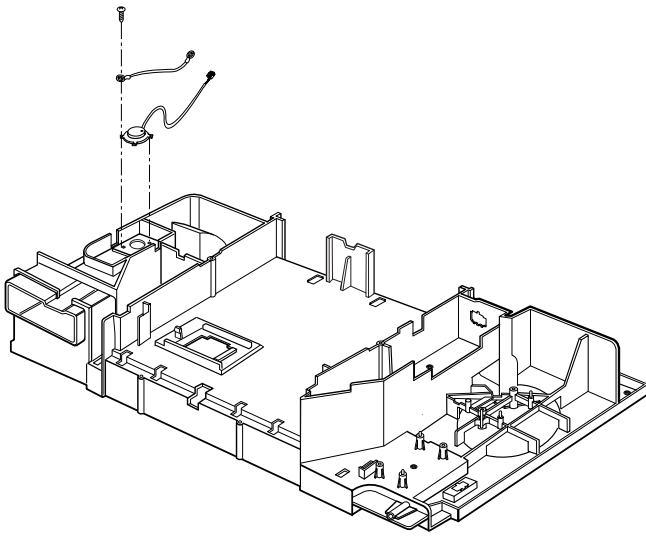

Figure 22
- (1) Remove the sensor by removing 1 screw securing it to the air duct. (See Figure 22)
- (2) Mount the new humidity sensor to the air duct.